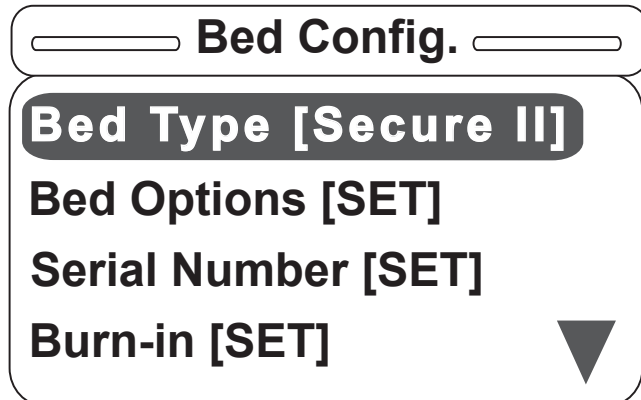

Figure S-35
33. Once all Bed Config. items are set, the main screen will be displayed as shown in Figure S-35.